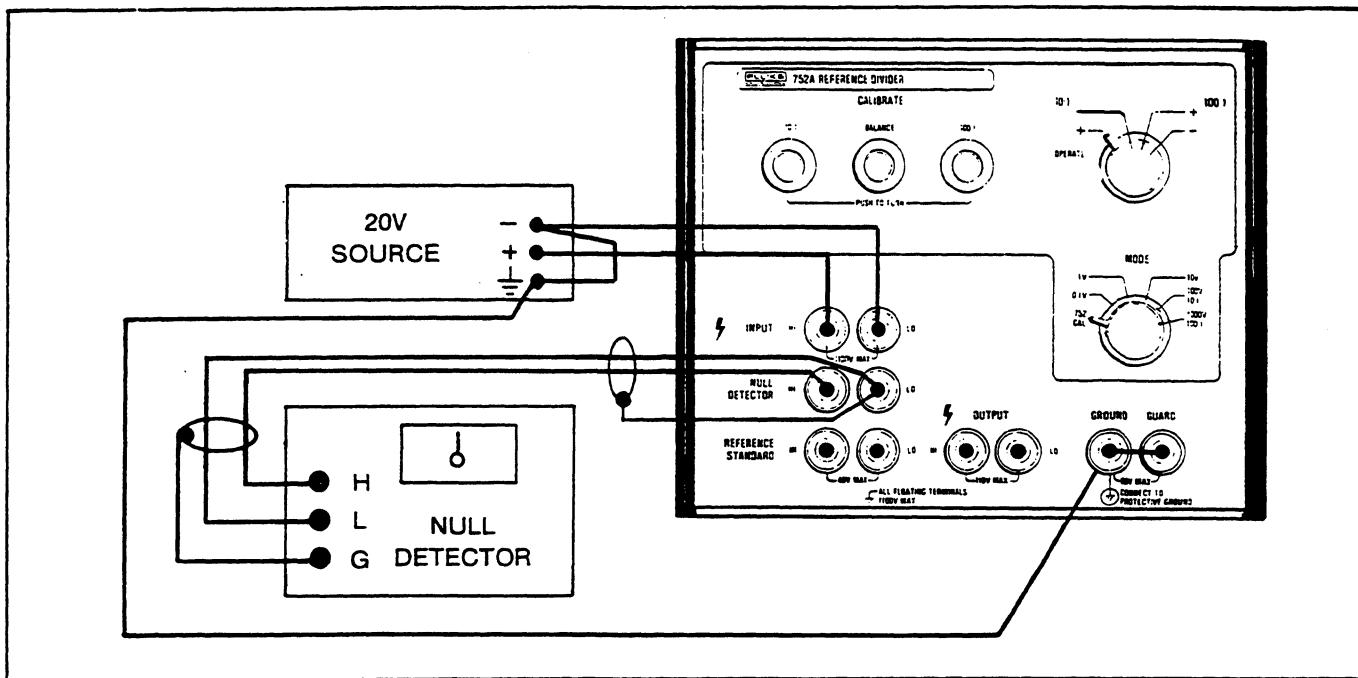

Figure 2-2. Self-Calibration Setup
2-18. Complete the following procedure to self-calibrate the 752A. The test equipment required is shown in Table 2-2. Equivalent test equipment may be substituted providing it meets the minimum specification given in Table 2-2. Connect the equipment as shown in Figure 2-2.
- Connect the 752A as shown in Figure 2-2.